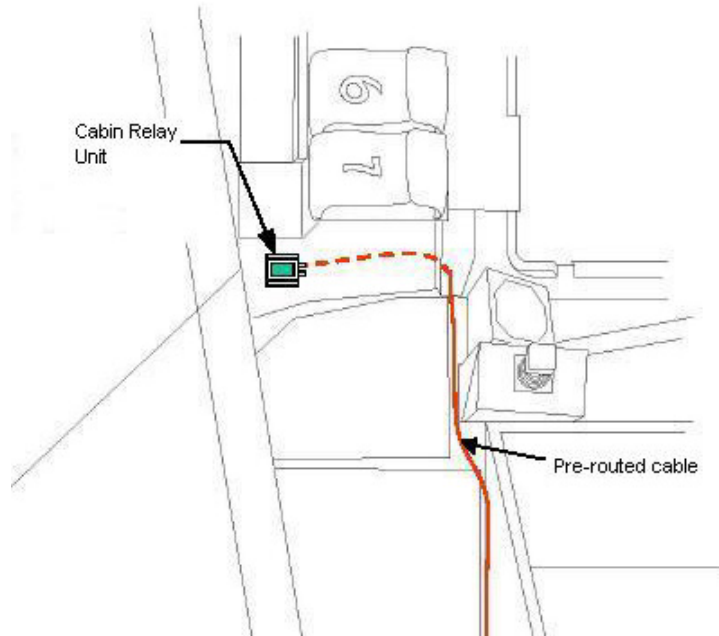
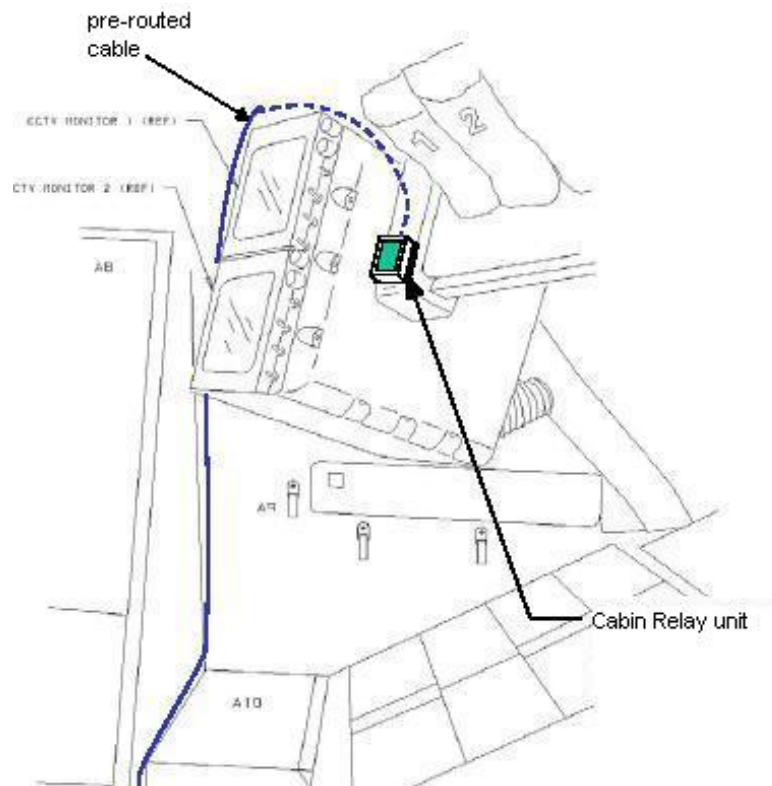

Figure 8-6.- Aft STBD location.
Figure 8-7.- Aft PORT location.
Remove Cabin Relay Units (2) from aft cabin (see fig 8-6 and fig 8-7)